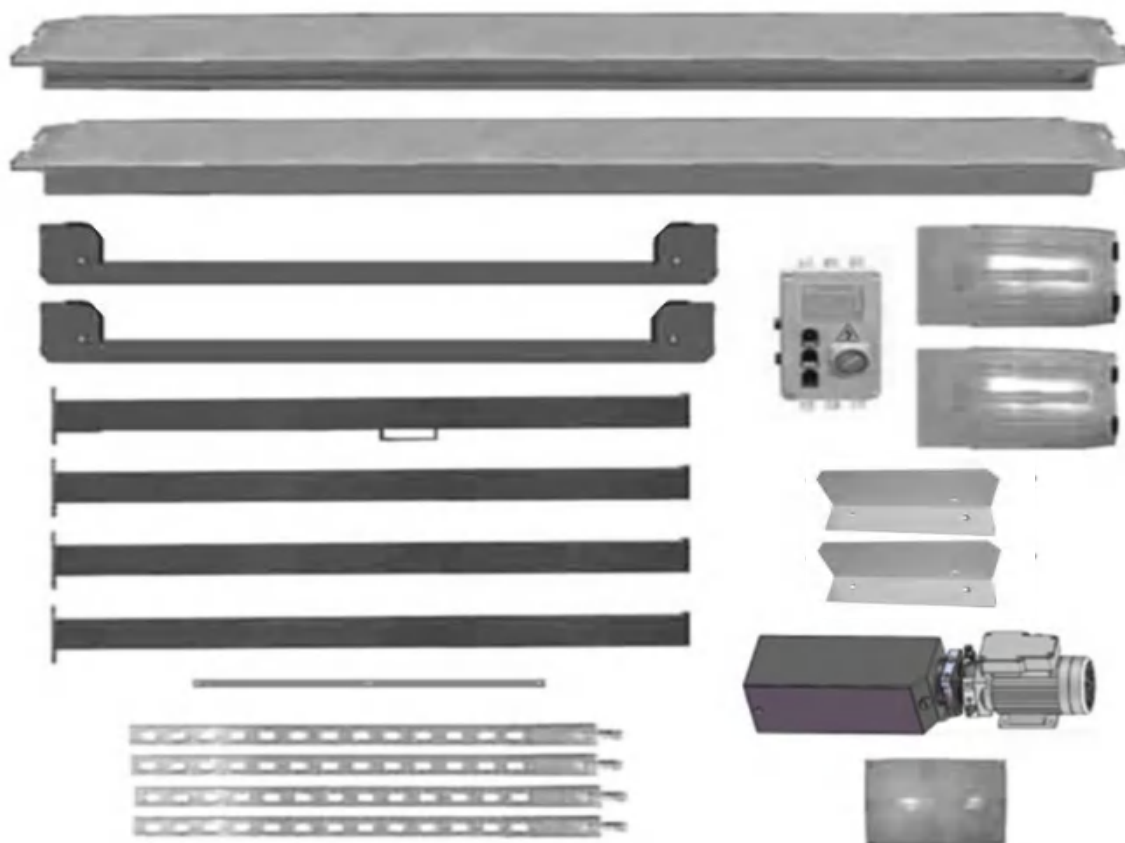

Fig.8
5. Move aside the parts and check the parts according to the shipment parts list (**See Fig. 8**).